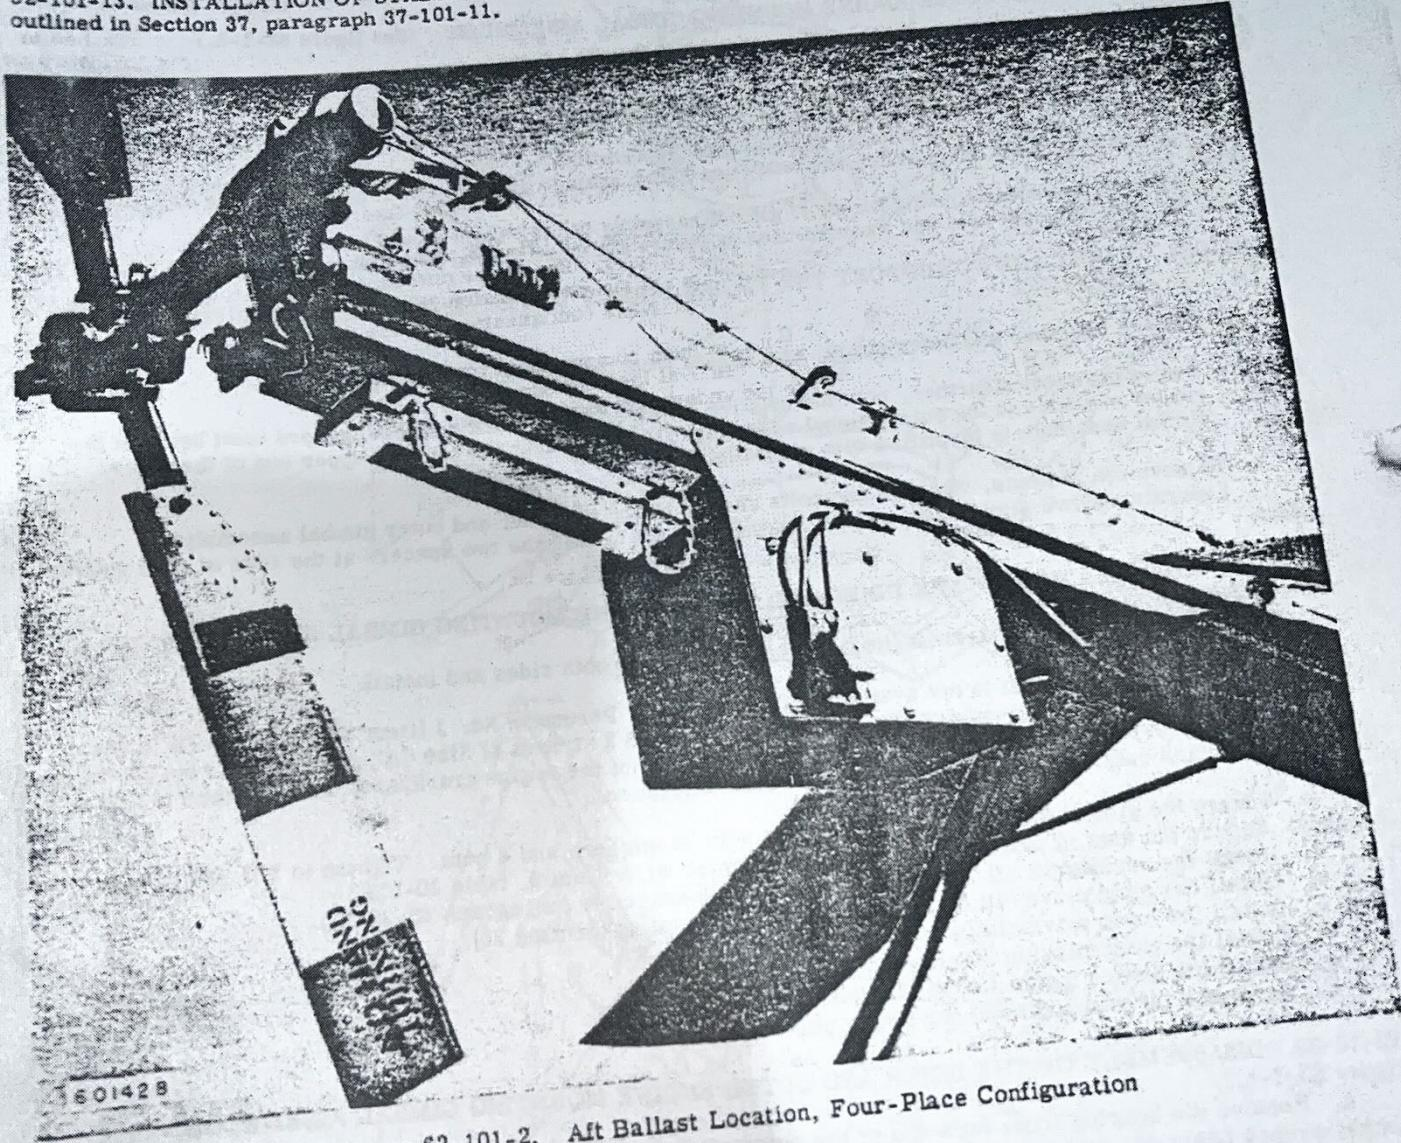

Figure 62-101-2. Aft Ballast Location, Four-Place Configuration
- A 17-pound ballast weight is used with the four-place configuration (figure 62-101-2 shows the aft location of the ballast weight.)